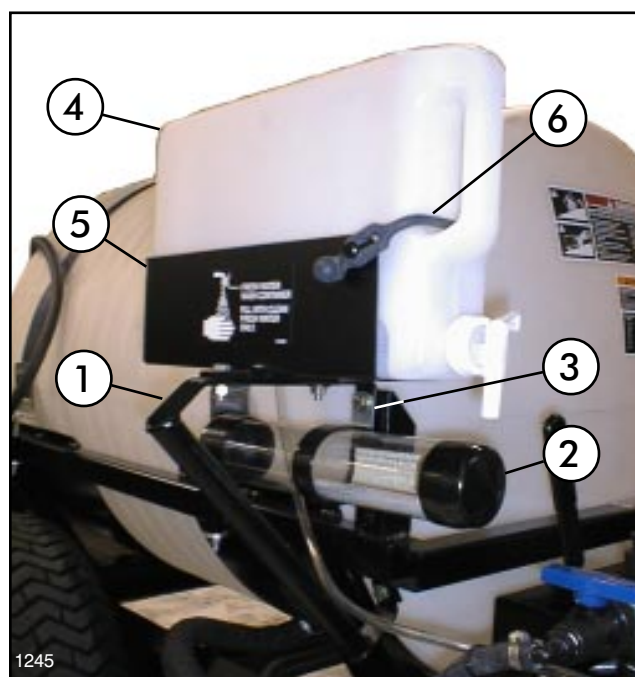

FIG. 18
1. Mount Hold-In Brace and Manual Tube to the right front side of Saddle Assembly using (2) 5/16" x 3/4" cap screws, flat washers, hex nuts and (1) R-Clamp. Tighten securely. See FIG. 18.
2. Mount Wash Tank Bracket (open end forward) to Hold-In Brace using (2) 5/16" x 1" hex hd. cap screws, flat washers, and hex nuts. Place Clean Water Wash Tank into Wash Tank Bracket and secure with Rubber Hold-Down, as shown in FIG. 18.